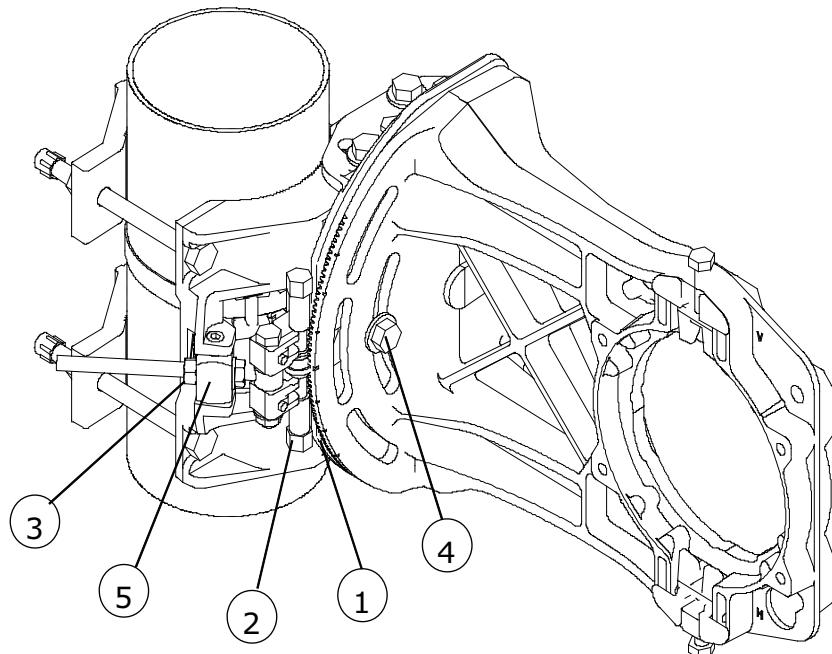
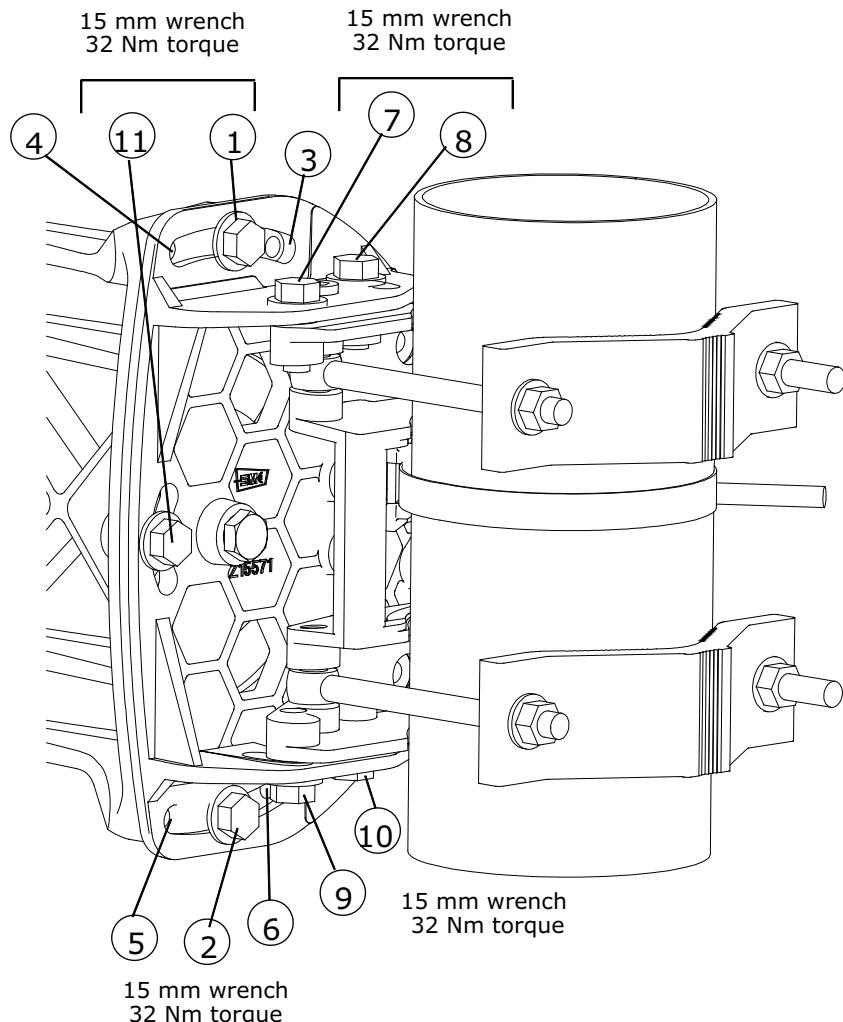

Fig.91 - Vertical and horizontal adjustment
Fig.92 - Antenna aiming block
- horizontal $\pm 15^\circ$ operating on the nut (3) shown in Fig.91, only after having loosen the nuts (7), (8), (9), (10) of Fig.92.
- vertical $\pm 15^\circ$ operating on vertical adjustment worm screw (2) shown in Fig.91 only after having loosen nuts (1), (2), (11) of Fig.92 and (4) of Fig.91.
For adjustment from 0° to $+30^\circ$ extract nut (1) Fig.92 and position it in hole (4), extract nut (2) Fig.92 and position it in hole (6). Operate on vertical adjustment worm screw (2) after having loosen nuts (1), (2), (11) of Fig.92 and (4) of Fig.91.
For adjustment from 0° to -30° extract nut (1) of Fig.92 and position it in hole (3), extract nut (2) of Fig.92 and position it in hole (5). Operate on vertical adjustment worm screw (2) after having loosen nuts (1), (2), (11) of Fig.92 and (4) of Fig.91.
For vertical adjustment some markers, every 10° , are available on support. The bigger marker gives 0° starting aiming position. Once the optimum aiming position is obtained, tighten firmly the four nuts (1), (2), (11) of Fig.92 and (4) of Fig.91 for vertical adjustment and the four nuts (7), (8), (9), (10) of Fig.92 for horizontal adjustment. Tighten with 15 mm wrench and 32 Nm torque.